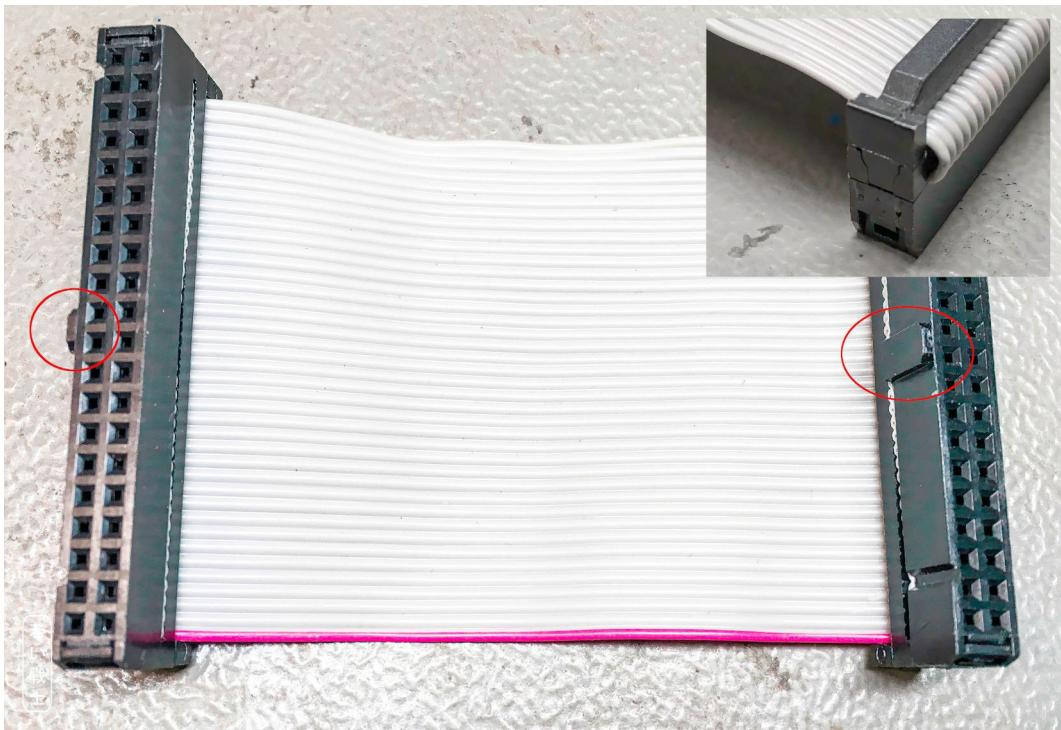

Figure 11: Ribbon cable
- Insert the cable into the IDC receptacle, be aware of the orientation (Figure 11, red circles)
- bend the ribbon cable over the top of the connector and install the strain relief (Figure 11, top right).